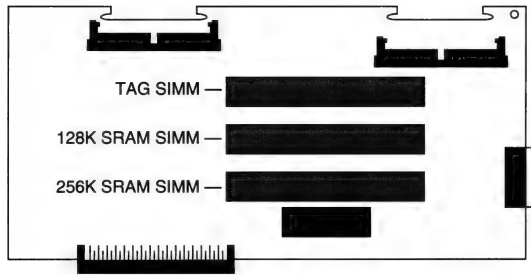

Figure 12 AWS Cache Card SIMM Slots on the PDS Card
4. Install SIMMs on the PDS card according to this list and by referring to Figure 12: